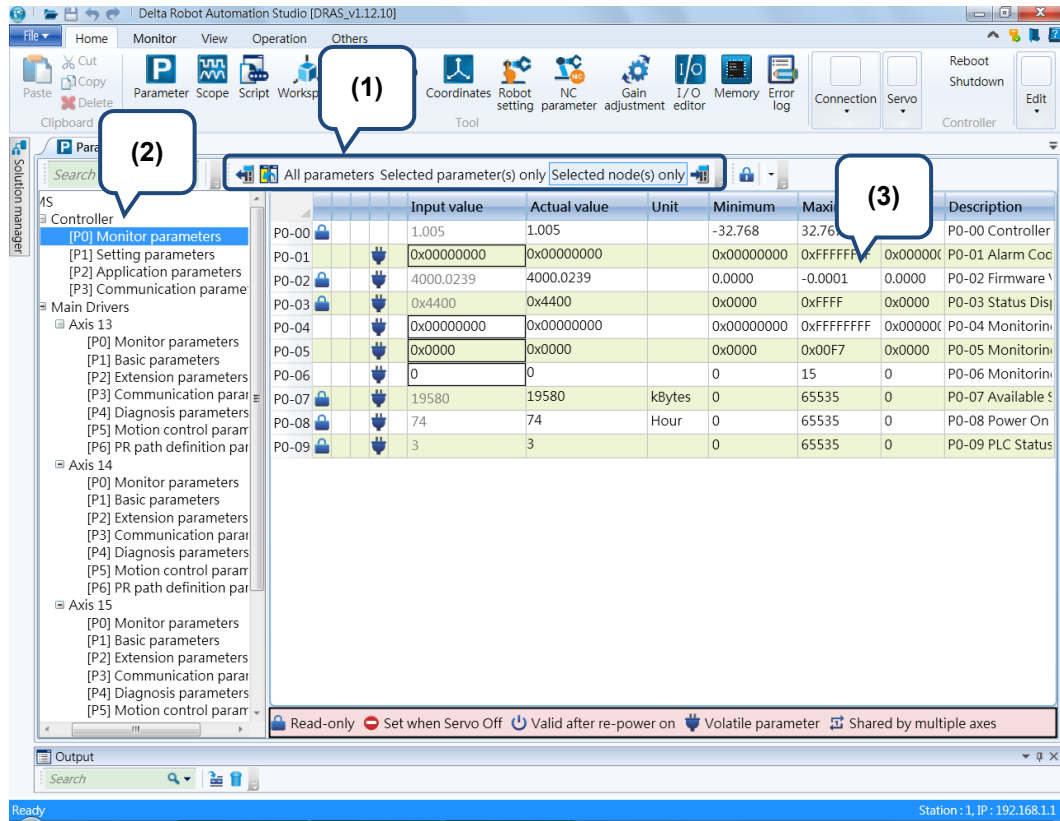

Figure 4.3.1 Parameter
Parameter editing section provided by DRAS manages all parameters of the controller and servo drive. Users can read, write or browse parameters here. It is divided into three sections, (1) tool bar, (2) parameter tree and (3) parameter list. See figure 4.3.1.